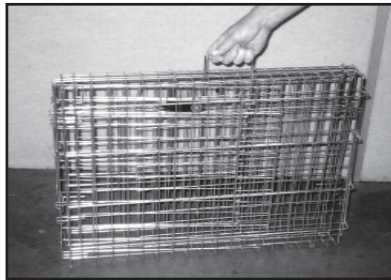

Figure 1
1. The Wire Pet Cage (#1) comes collapsed for transportation and storage. This strong, durable steel Wire Pet Cage has good ventilation and visibility for your pet and is excellent for home and travel use. (See Figure 1).